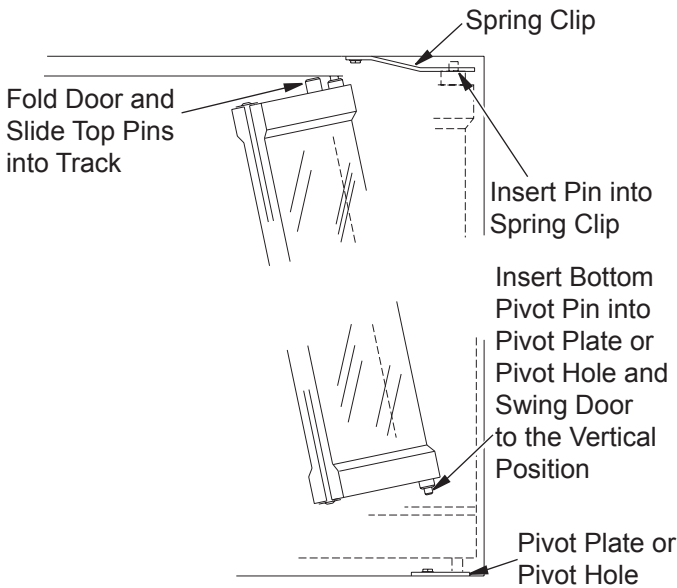

Figure 1 - Bi-Fold Door Installation
1. With bi-fold door completely folded, insert bottom pivot pin into pivot plate or pivot hole located near bottom corner of front face. Open and swing door to vertical position making sure top pins slide into door track. Door is installed when top door pin snaps into spring clip (see Figure 1).